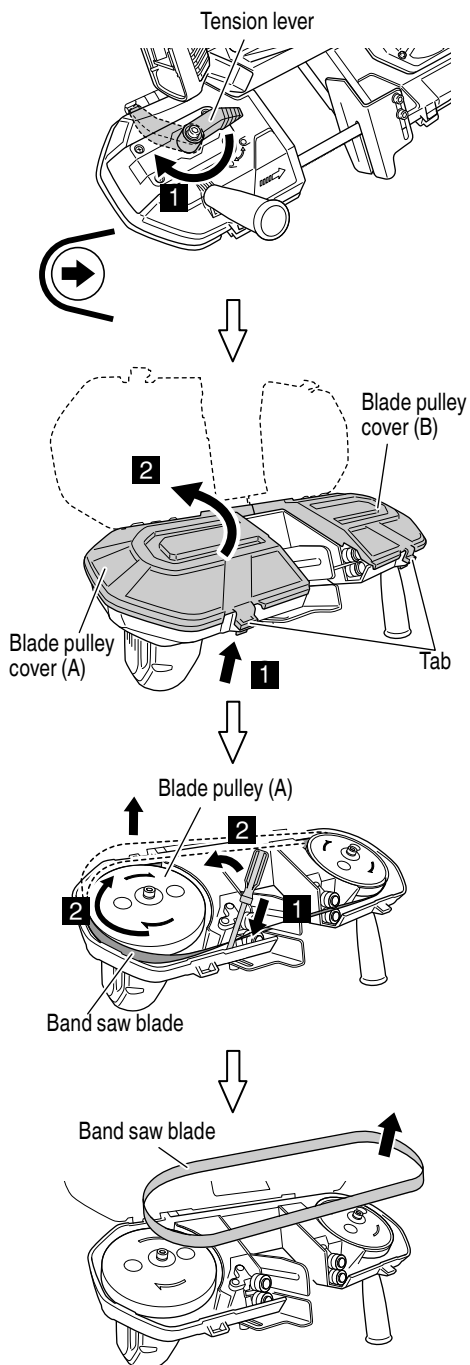

Fig. 12
**How to remove (Fig. 12)**
### 1. Replacing the band saw blade (Fig. 12, 13)
(See Fig. 12 for band saw blade removal)